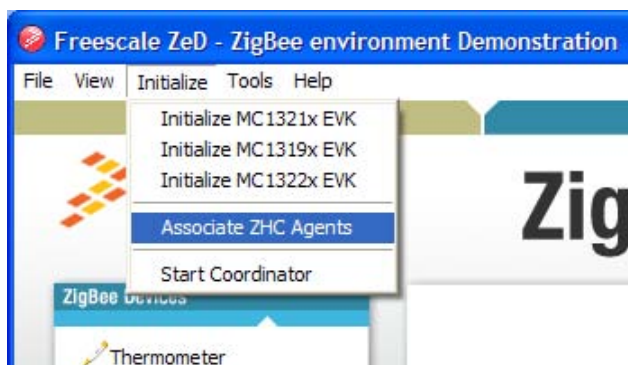

Figure 17. Initializing the Agent Connections
1. From the ZeD menu bar choose Initialize -> Associate ZHC Agents as shown in Figure 17.